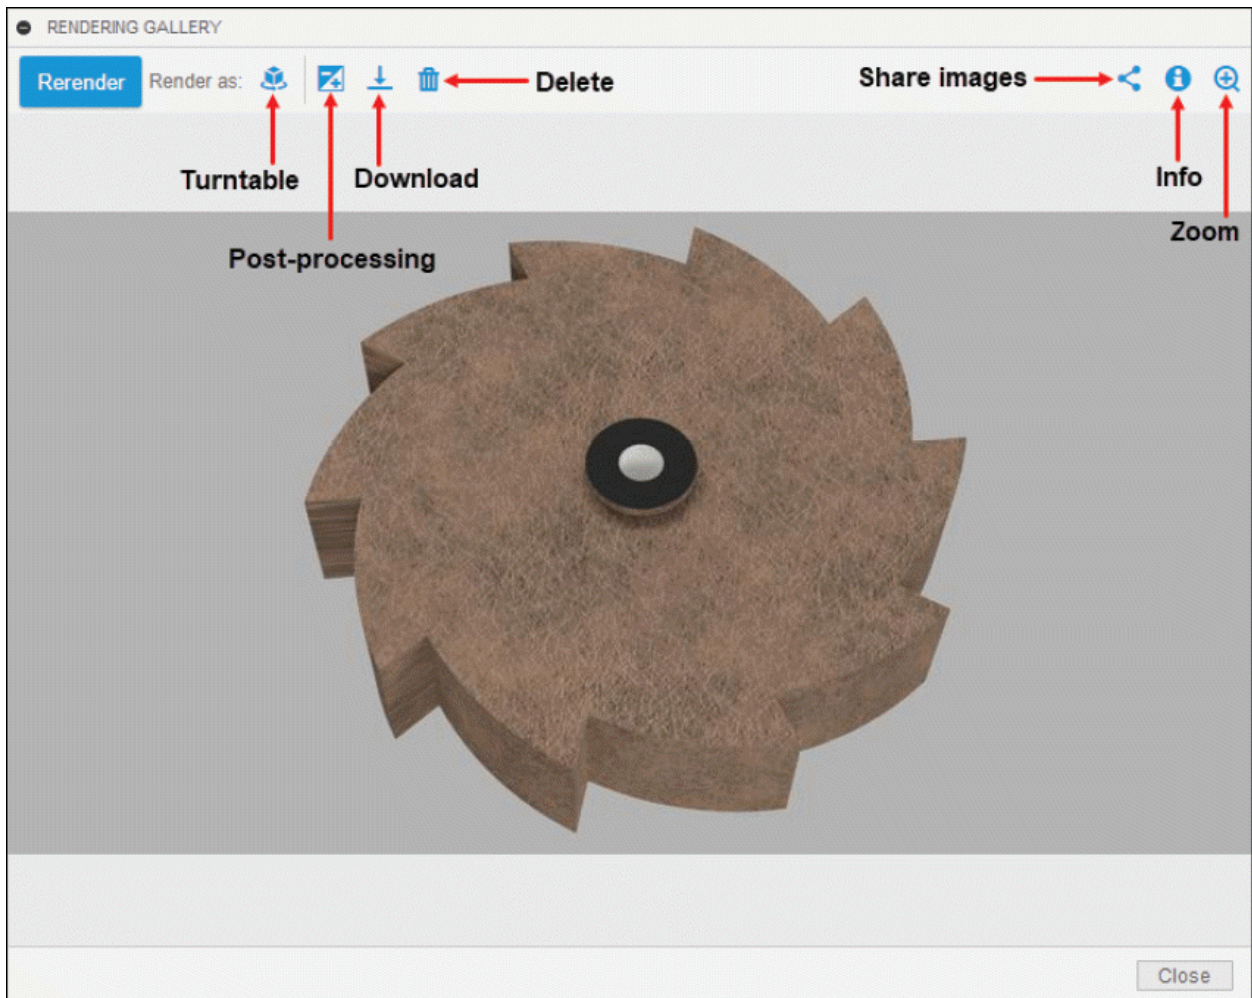

Figure-26. RENDERING GALLERY dialog box
- To view the enlarged size of rendered image, click on that particular image. The image will be displayed in **RENDERING GALLERY** dialog box; refer to Figure-26.